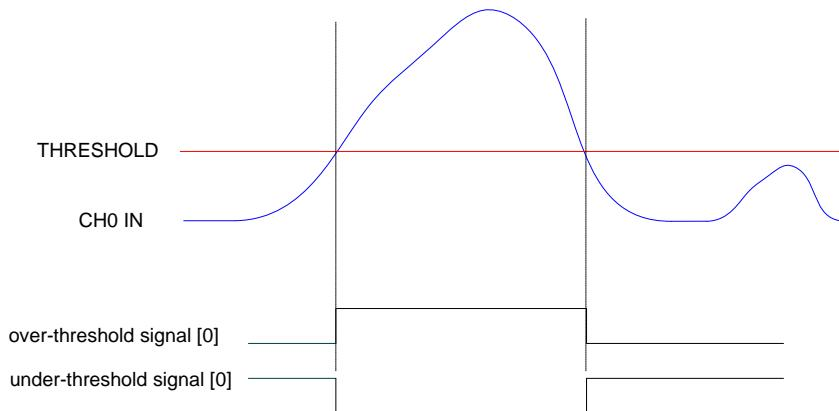

Fig. 10.12: Channel over/under threshold signal
- an *over/under-threshold signal* (see Fig. 10.12). This signal can be programmed to be active (i.e. “1”) as long as the input pulse stays over the threshold or under the threshold (depending on the trigger polarity bit at register address 0x8000).